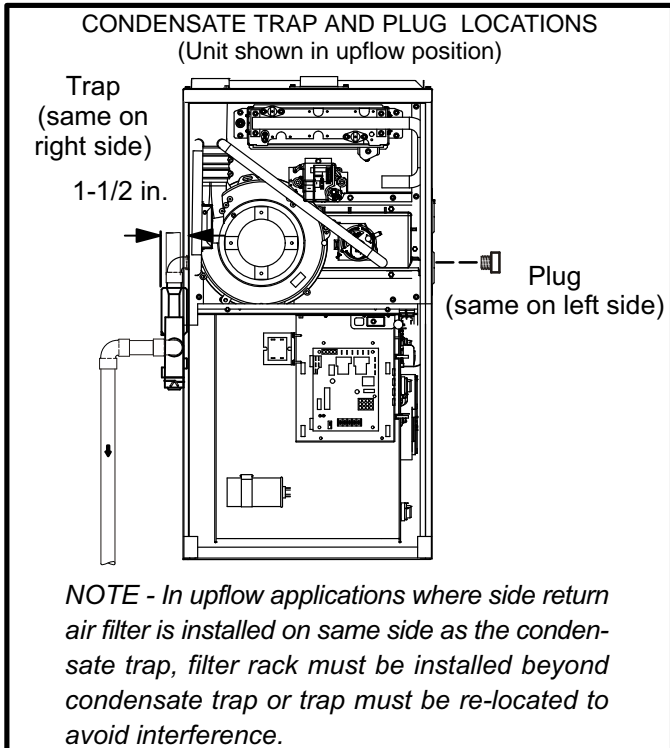
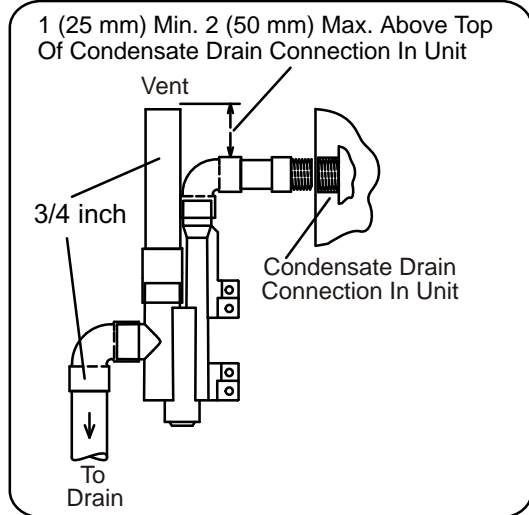

FIGURE 49
FIGURE 58
This unit is designed for either right- or left-side exit of condensate piping in upflow applications. In horizontal applications, the condensate trap must extend below the unit. An 8" service clearance is required for the condensate trap. Refer to figures 49 and 51 for condensate trap locations. Figure 58 shows trap assembly using 1/2" PVC or 3/4" PVC.
- 2 - For furnaces with a 1/2" drain connection use a 3/8 allen wrench and remove plug (figure 49) from the cold end header box at the appropriate location on the side of the unit. Install field-provided 1/2 NPT male fitting into cold end header box. For furnaces with a 3/4" drain connection use a large flat head screw driver or a